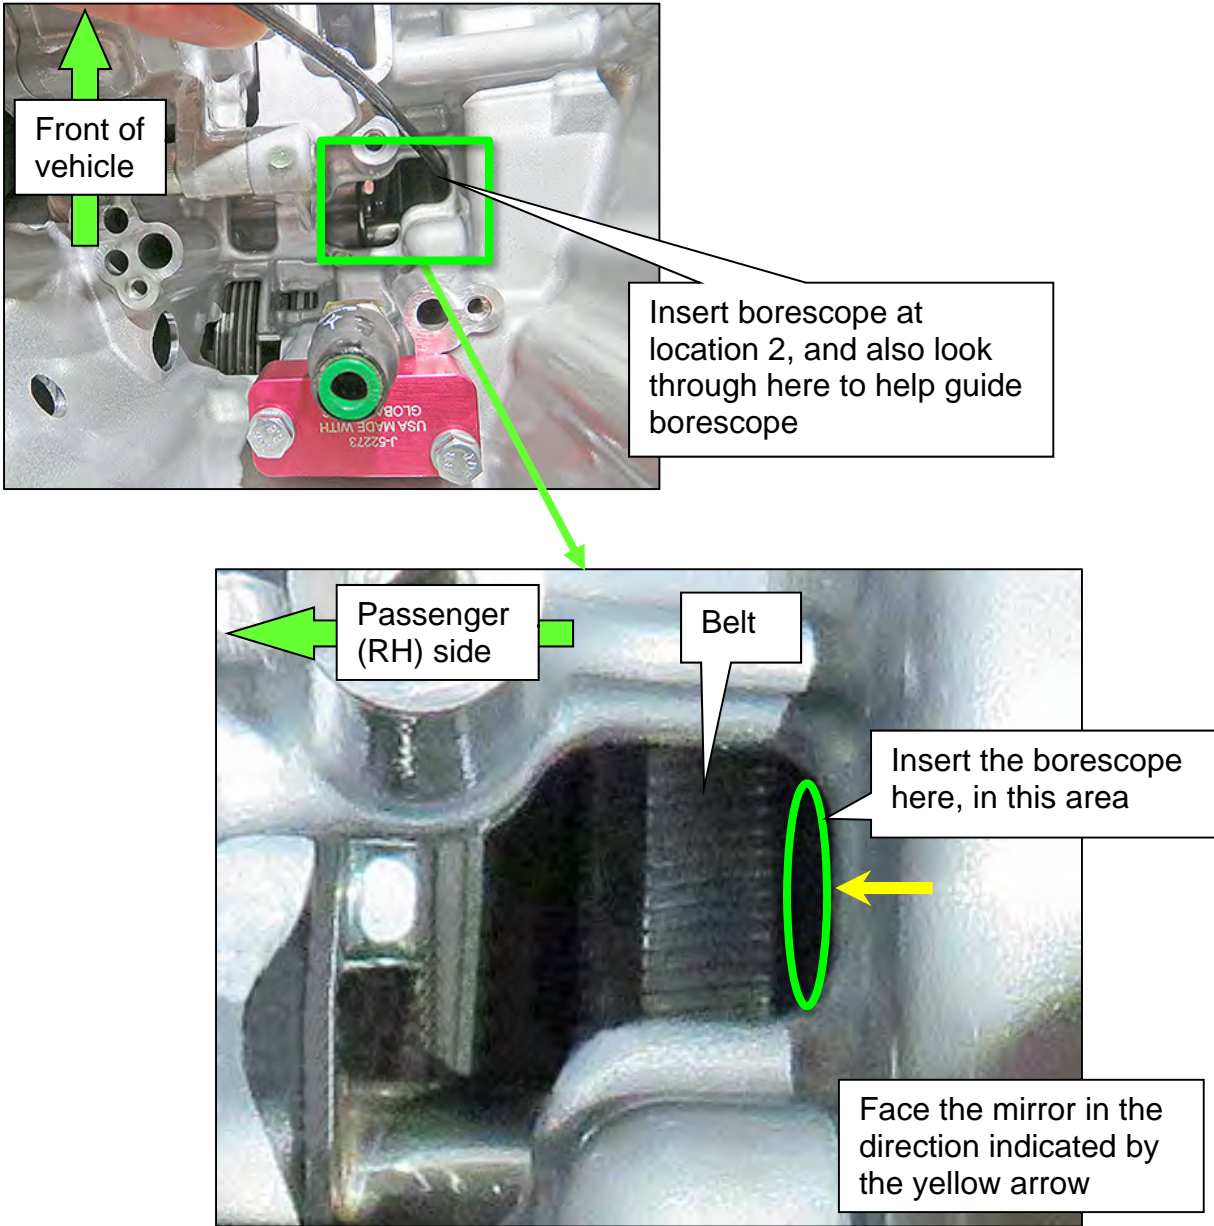

Figure 13
- b. Insert the borescope in the second location, where shown in Figure 13.